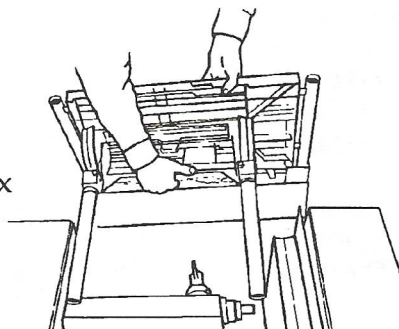
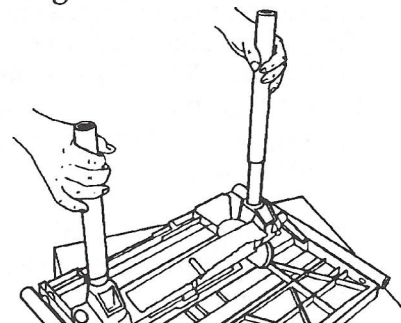
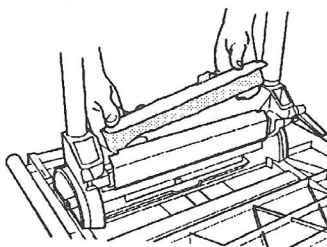

Fig. B-2
Fig. B-3
Fig. B-4
- ✓ 4. Remove the worktable, as shown in Fig. B-2, then remove the cardboard from the support tubes (seen in Fig. B-3) and the guard (seen in Fig. B-4).